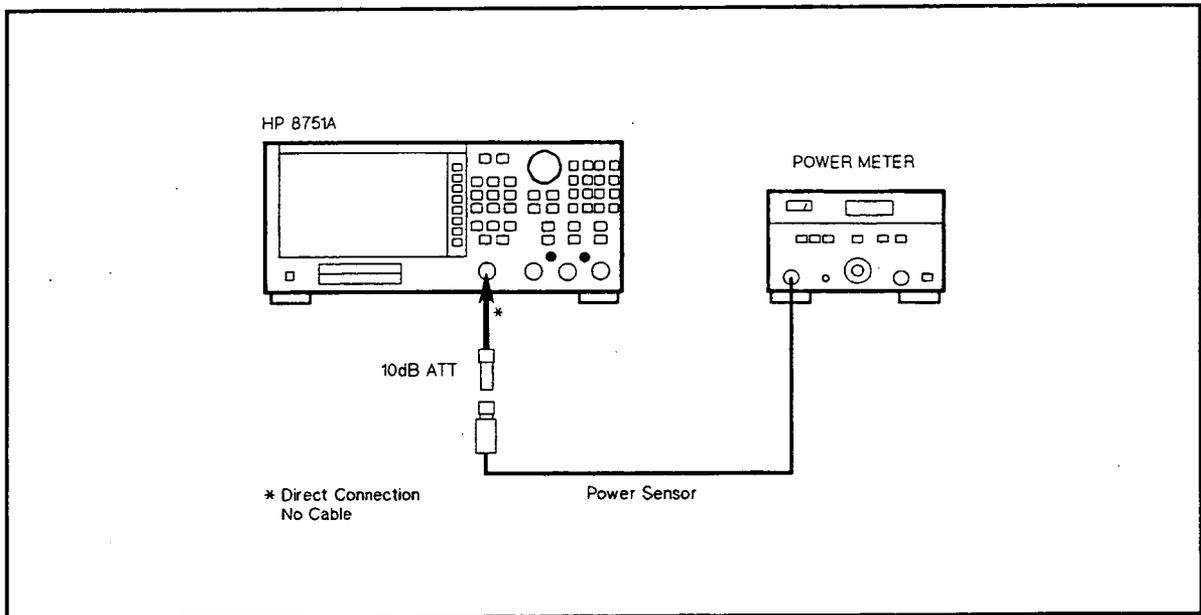

Figure 2-8. Power Sweep Linearity Test Setup
- Connect the equipment as shown in Figure 2-8.